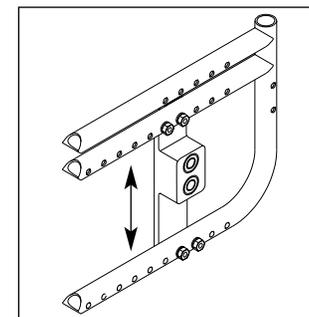

Fig. 12a
**2. Seat Height - Zippie GS Only (Fig. 12a)**
On the Zippie GS, adjust seat height by moving the rear axle sleeve up or down in the axle plate. 1.25" adjustment possible (Fig 12a).